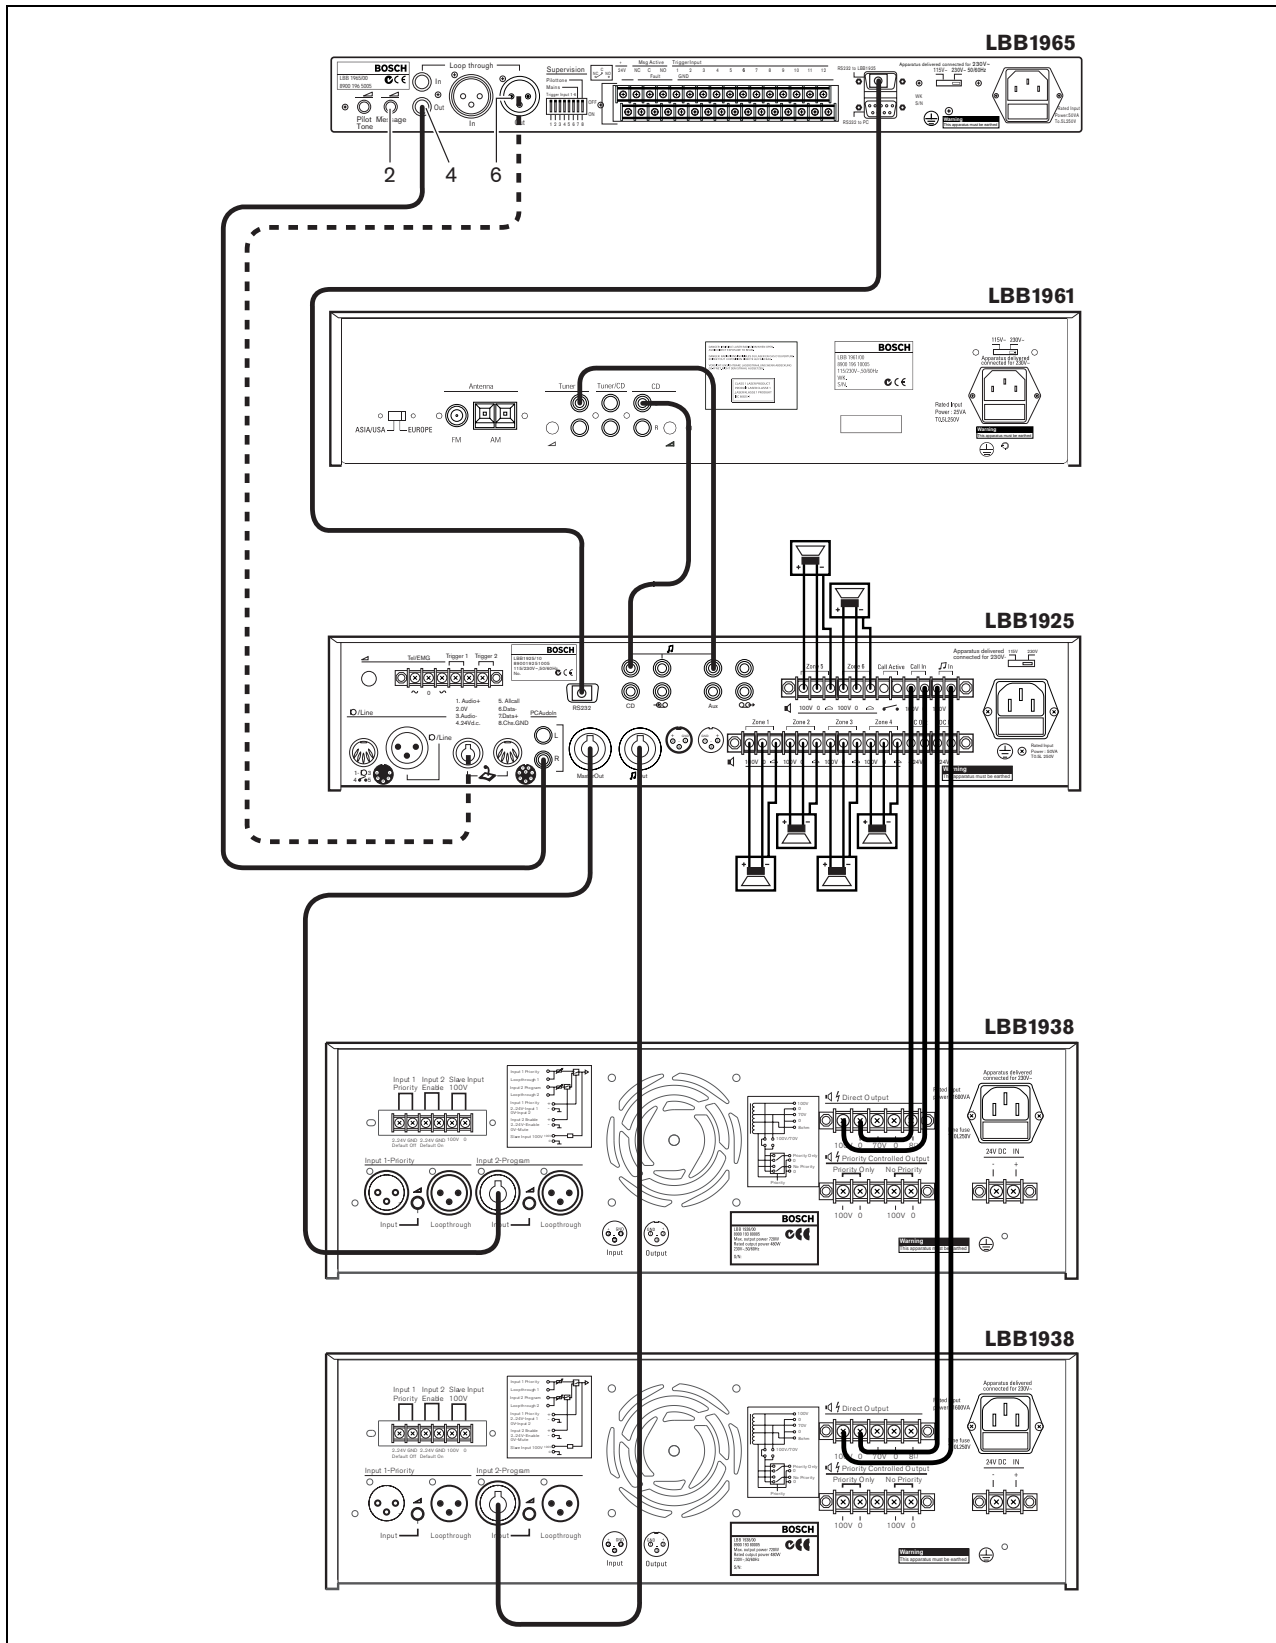

Figure 3.2
- Connecting the Cinch output (4) of the message manager to the Cinch PC Audio In (R) line input of the system pre-amplifier, as shown in figure 3.2 (in which the LBB1961 functions as a BGM source).
- Connecting the XLR output (6) of the message manager to the points 1 and 3 of the 8-pole DIN socket of the system pre-amplifier.